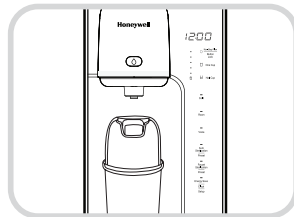

Fig. 17
1. Place the Sterilizing Cup below the faucet. with the indicating arrow facing inwards. The Voice Guide will say "sterilization cup detected" (Fig. 17).